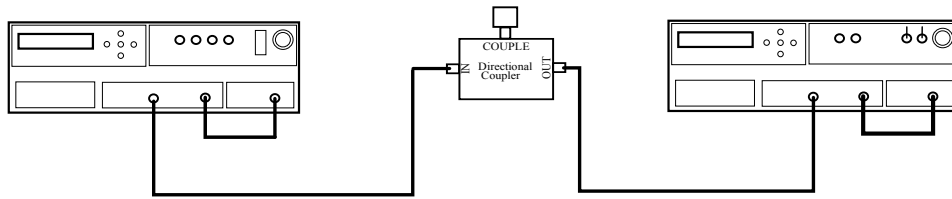

Figure 11: Measure the transmitted power through directional coupler.
6. Connect the output of the transmitter to the RF IN of the directional coupler, as in Fig. 11.